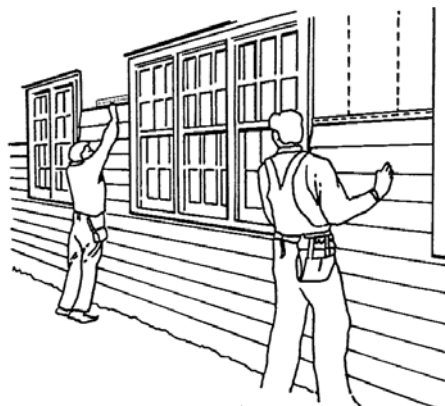

Figure 36.
- Check every fifth or sixth course for horizontal alignment (Fig. 36). Also check siding alignment with adjoining walls.